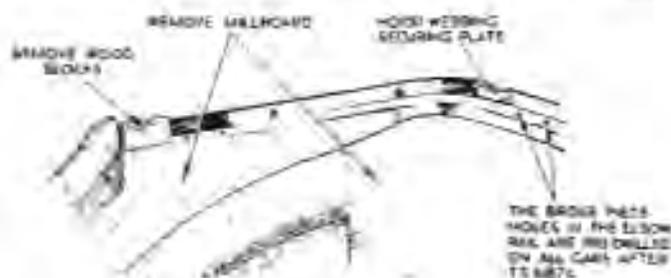

Fig. 2 Showing Cappings removed.
- Detach the five cappings from the elbow rail after removing the P.K. securing screws. Remove the two wood blocks from the elbow rail. (Fig. 2.)
- Remove the millboard from the front of the petrol tank after removing the P.K. securing screws. (Fig. 2.)